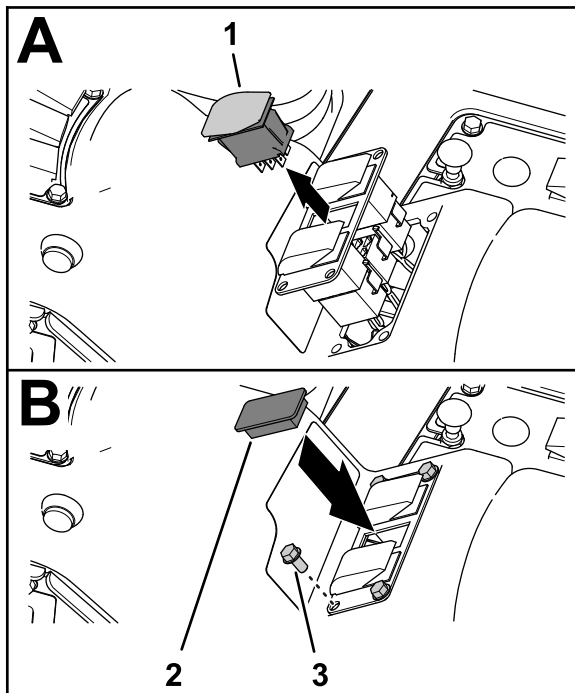

Figure 246
5. Assemble the 3-switch panel to the control console (Figure 246) with the 4 flange head screws (1/4 x 1/2 inch) that you removed in step 1.
2. Squeeze the lock tabs of the rate-control switch together and push up the switch out of the 3-switch panel (Figure 246).